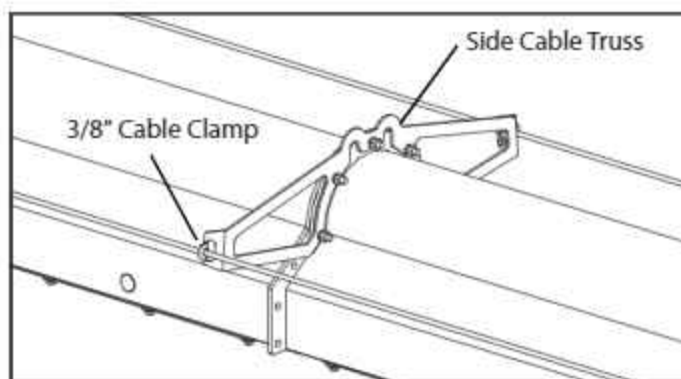

FIG. 3-27. Truss Cable Mounting
9. Loosely install a 3/8" cable clamp into each of the Side Cable Trusses as shown in Fig. 3-27.
10. Loosely install a 3/8" cable clamp into each of the Side Cable Trusses as shown in Fig. 3-27.